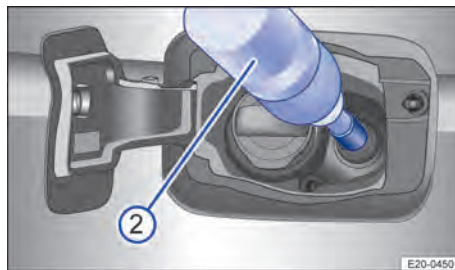

Fig. 176 Behind the tank flap: Refilling AdBlue with a refill bottle (illustration).
2. Place the refill bottle on the AdBlue® filler neck and screw on the refill bottle hand-tight → Fig. 176.
3. Press the refill bottle towards the filler neck and hold it in this position → Fig. 176 ②.